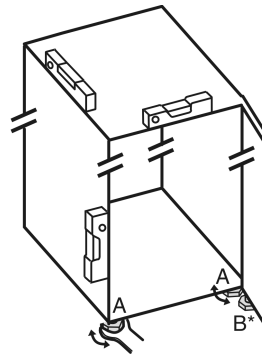

Fig. 8
- ▶ Unscrew the adjustable feet Fig. 8 (A) using the enclosed open-end spanner and a spirit level until the appliance is firmly aligned and level.
- ▶ Unscrew the adjustable foot Fig. 8 (B) on the swap bearing block with the enclosed open-end spanner until it rests on the floor.
- ▶ Turn the adjustable foot Fig. 8 (B) 90° further.